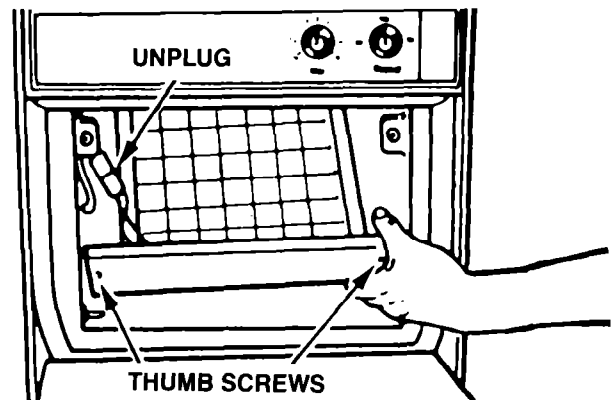

FIGURE 9
2. Remove cutter grid (two thumb screws), Figure 9. The grid slides off of two mounting tabs near the water pan.